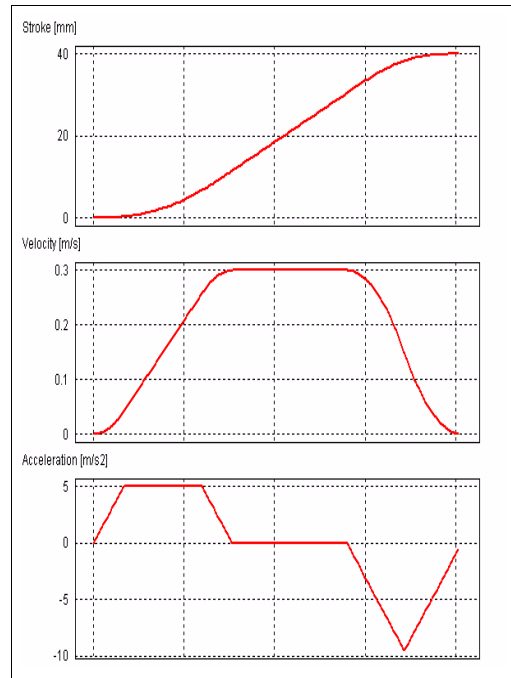

Figure 1-5: Traverse, speed and acceleration of a limited jerk motion
- The **DISABLE** state is now signalled by the LEDs **Stat A** and **Stat B** flashing briefly twice. It is now distinguished unmistakely from the **STOP** state. The complete state diagram with all LED codes is shown in Fig. 1-5, operating states, on page 6.